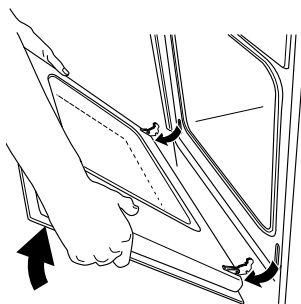

Fig. 3
- 4) hold the door by the side edges and close it slowly but not COMPLETELY (Fig. 3);
- 5) pull the door forward, removing it from its seat (Fig. 3);